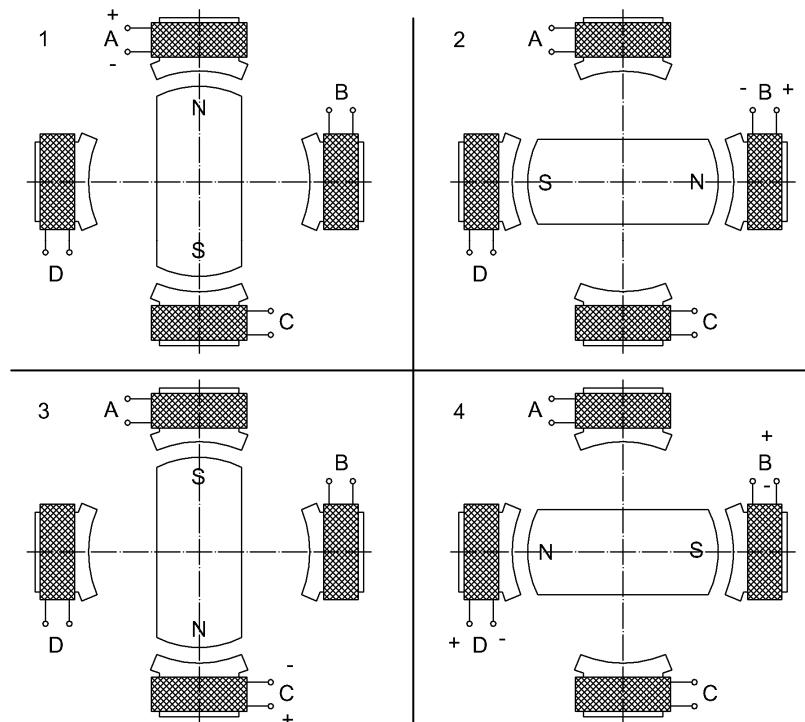

Figure 1: Four (1, 2, 3, 4) possible orientations of the rotor versus the active electromagnet (A, B, C, D)
A stepper motor basically consists of four stationary electromagnets (A, B, C, D) and a permanent magnet (R) which serves as a rotor. Consider a current is flowing through only one of the electromagnets (A, B, C or D) at a time. Figure 1 gives corresponding orientations of the rotor made of permanent magnet in the middle. It is important that the rotor remains in a given orientation as long as the current is flowing through the same electromagnet, and that the user knows the orientation of the rotor since the user is the one to turn-on a selected electromagnet.